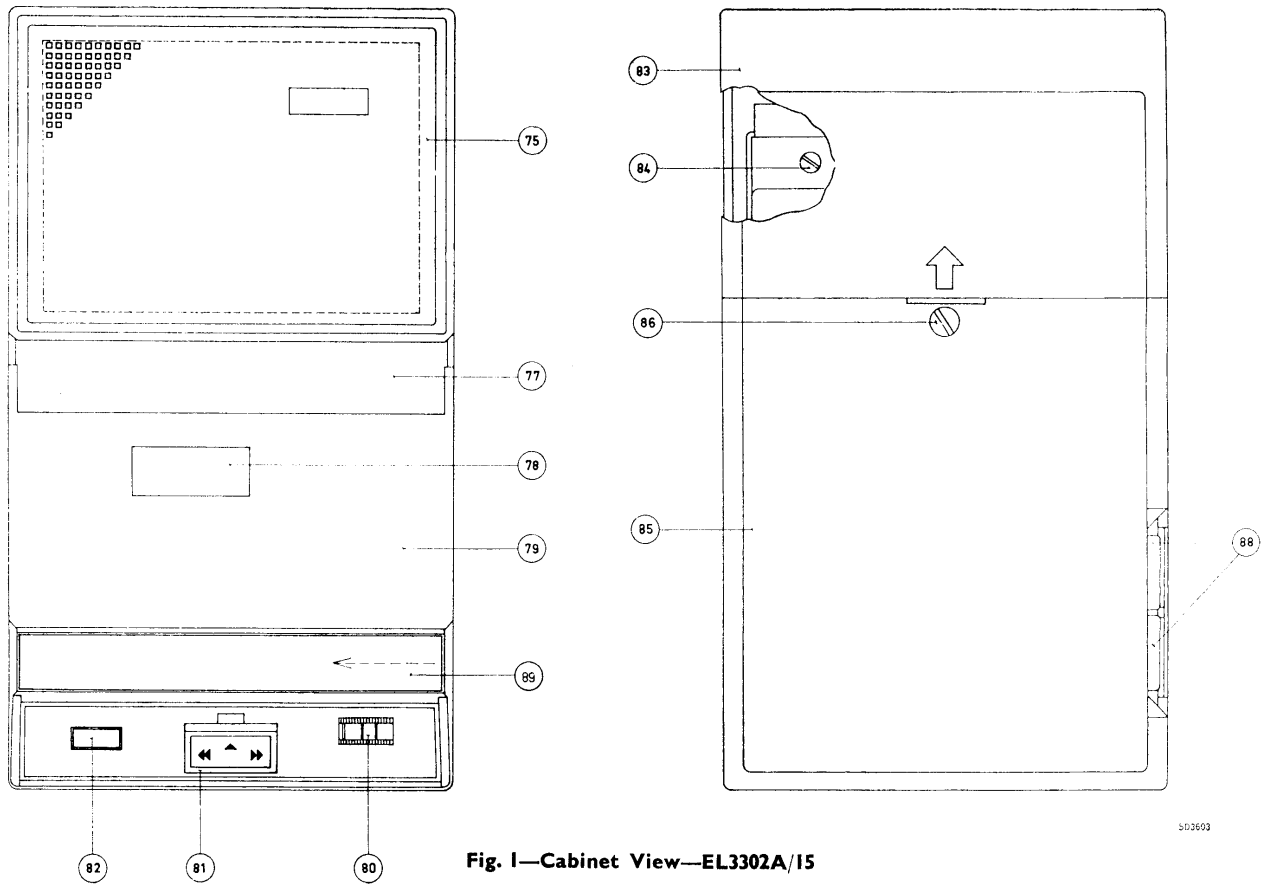

Fig. 1—Cabinet View—EL3302A/15
1. Record (see Figs. 1 and 2)
1. Cabinet removal (see Figs. 1 and 2)